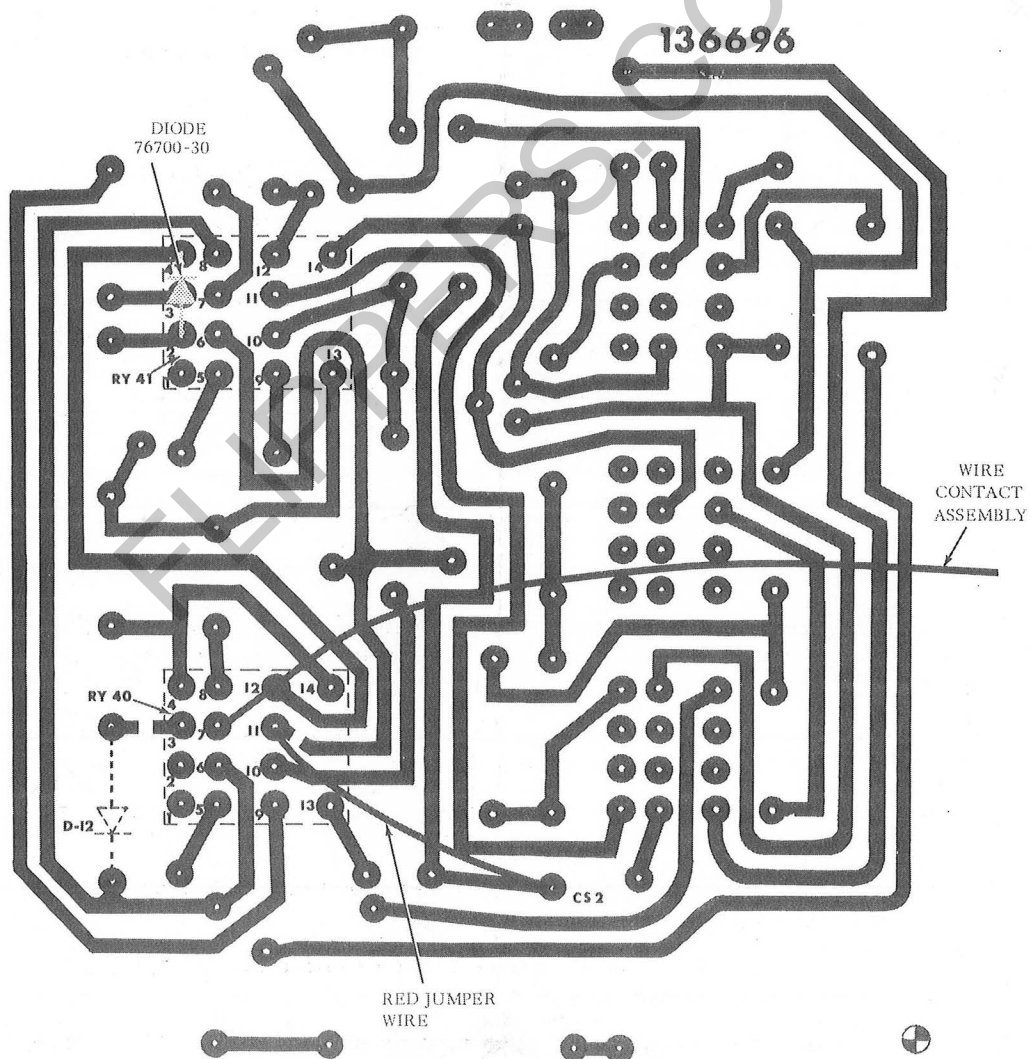

Figure 1
6. Using a sharp knife, cut copper trace connecting Pin #3 of RY 40 to anode of Diode D-12; cut copper trace connecting Pin #11 of RY 40 to JB 4 connection. Refer to Figure 1 for location of traces.
9. Connect and solder red jumper wire tinned in Step 8 between CS 2 connection and Pin #11 of RY 40. See Figure 1 for jumper wire location.
10. Solder Diode, Part Number 76700-30, anode to Pin #2 of RY 41, cathode to Pin #4 of RY 41. See Figure 1 for Diode location.
14. Solder tinned end of Wire and Contact Assembly to Pin #7 of RY 40. See Figure 1 for Wire and Contact Assembly location.